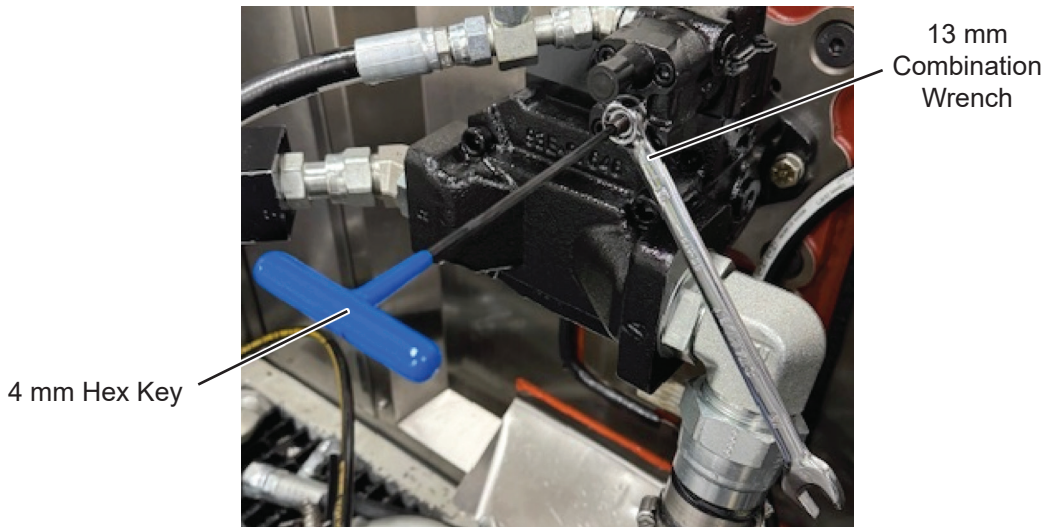

Figure 3 - Auxiliary Pump Pressure Adjustment
7. Install 13 mm combination wrench on pressure compensator lower set screw jam nut. See Figure 3.
8. Install 4 mm hex key in pressure compensator lower set screw. See Figure 3.
9. Loosen lower set screw jam nut with combination wrench while holding set screw in place with hex key. See Figure 3.
11. Tighten lower set screw jam nut with combination wrench while holding set screw in place with hex key. See Figure 3.